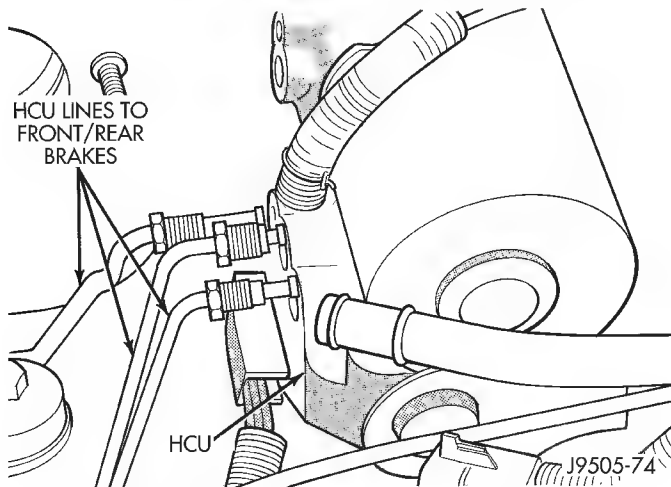
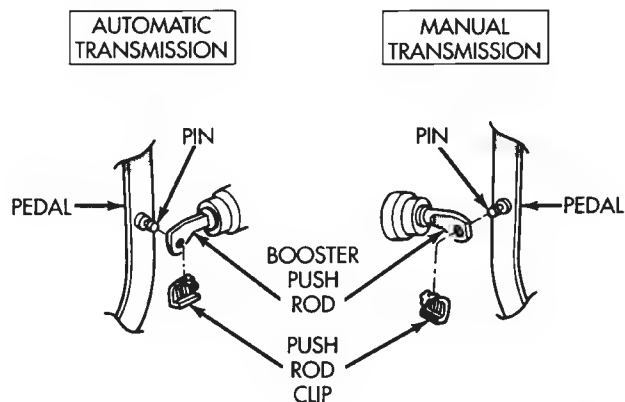

Fig. 15 HCU Front/Rear Brakeline Connections
Fig. 16 Push Rod Attachment At Brake Pedal
(21) Disconnect lines at lower left side of HCU (Fig. 15).
(22) Remove nuts attaching HCU mounting bracket to stud plate and body. Then remove HCU and bracket as assembly.
(23) In passenger compartment, remove instrument panel lower trim cover.
(24) Remove retaining dip that secures booster push rod to brake pedal (Fig. 16).
(25) Remove nuts attaching booster to passenger compartment side of dash panel.
(26) In engine compartment, slide booster studs out of dash panel, tilt booster upward, and remove booster from engine compartment.
(27) Remove booster spacer, if equipped.
(28) Remove dash seal from booster, or dash panel.